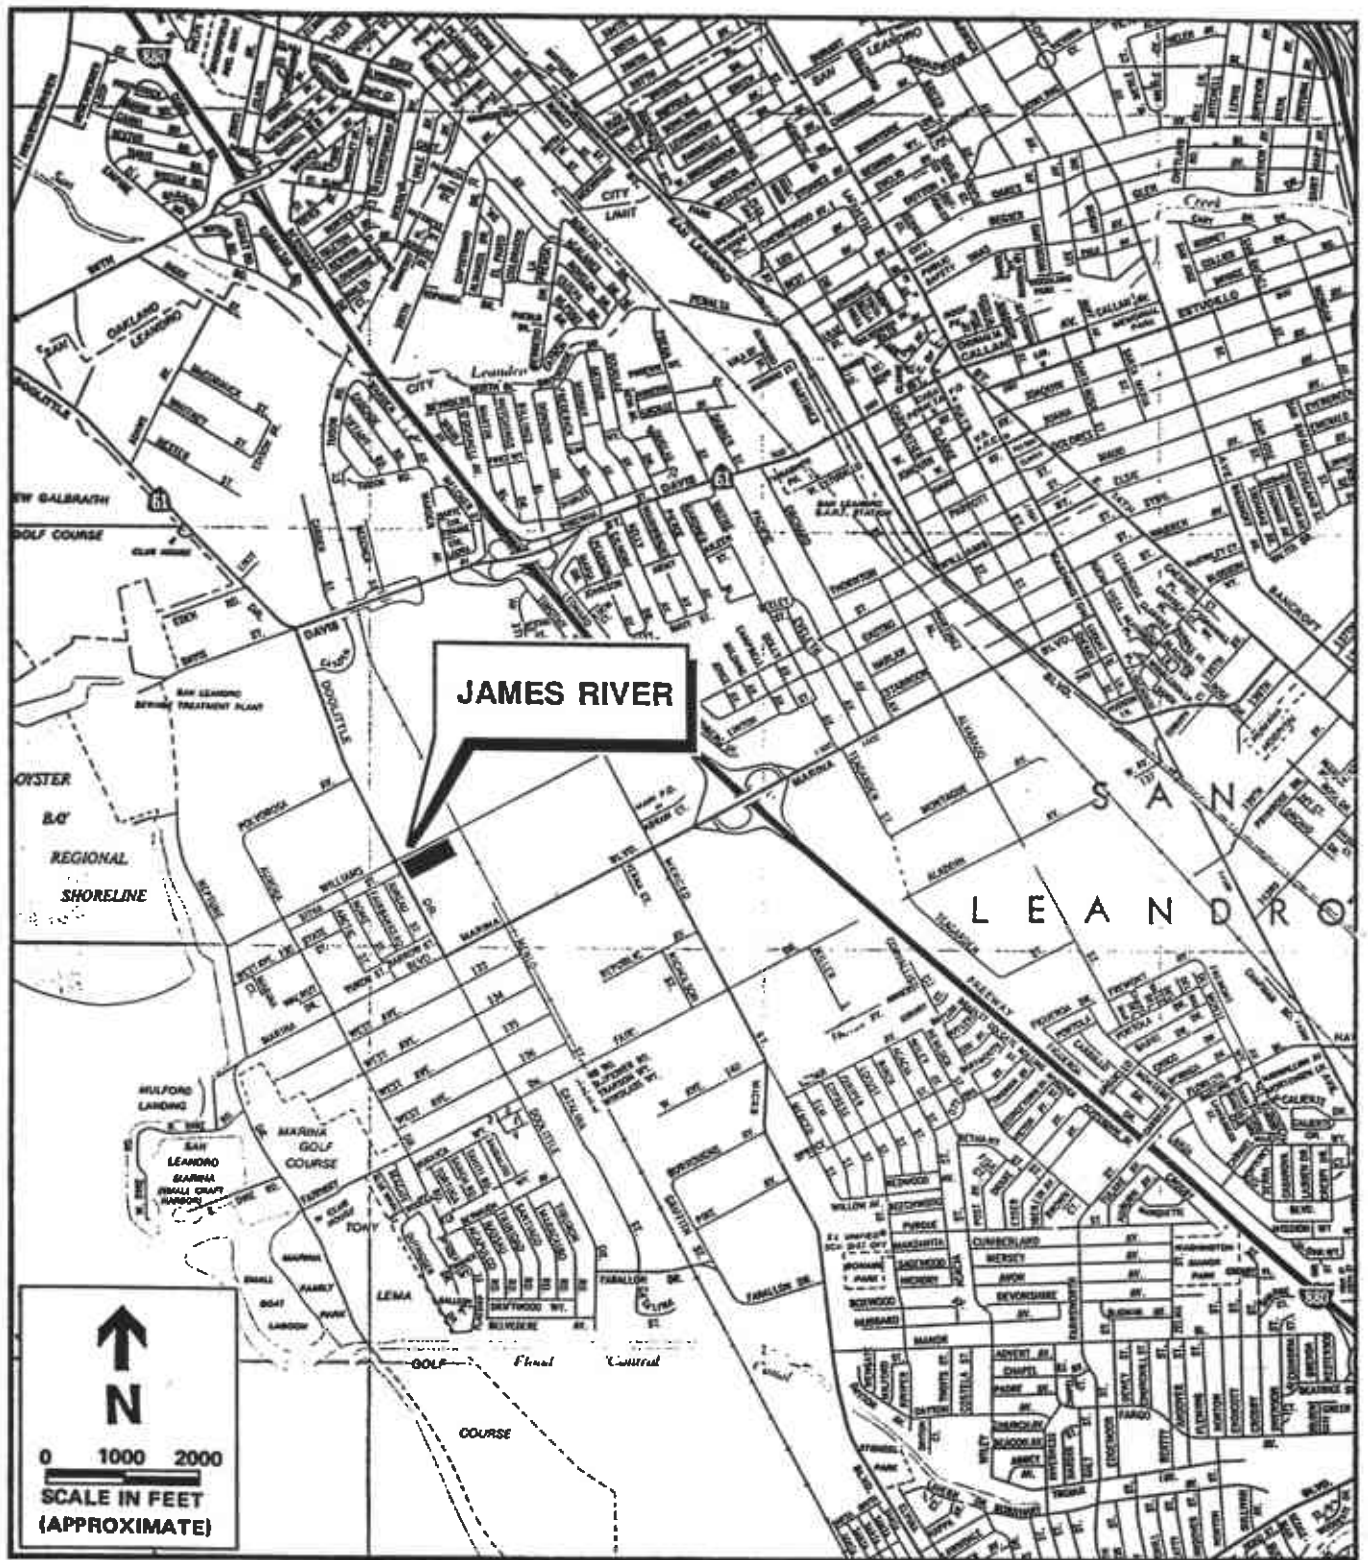

Figure 1 Site Location Map
1. A site location map for the JRC facility (Figure 1).